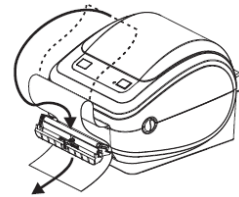

Figure 3.7.7 Insert backing behind dispenser door.
- 3) Insert the label sheet between the dispenser door and the printer body (Figure 3.7.7).